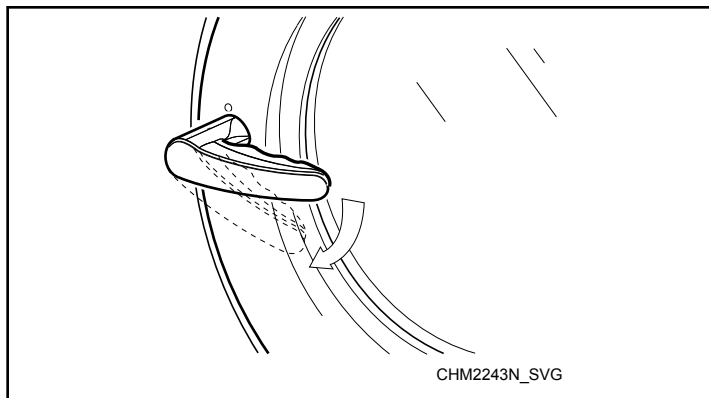

Figure 38
2. Turn handle clockwise to open. Refer to *Figure 38*.